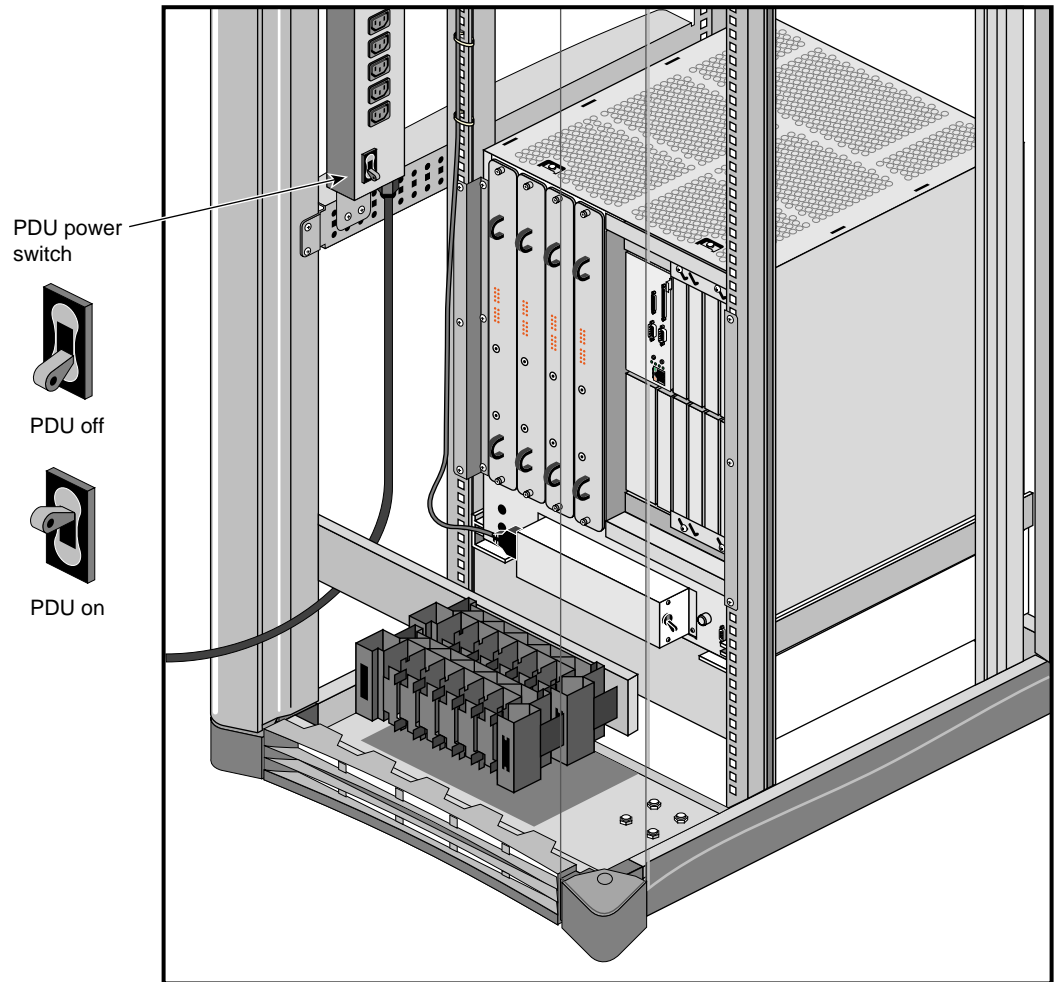

Figure 6-5 Turning Off the PDU
3. Turn off power to the power distribution unit (PDU), see Figure 6-5.
4. Turn off the PDU on the last rack (see Figure 6-5).